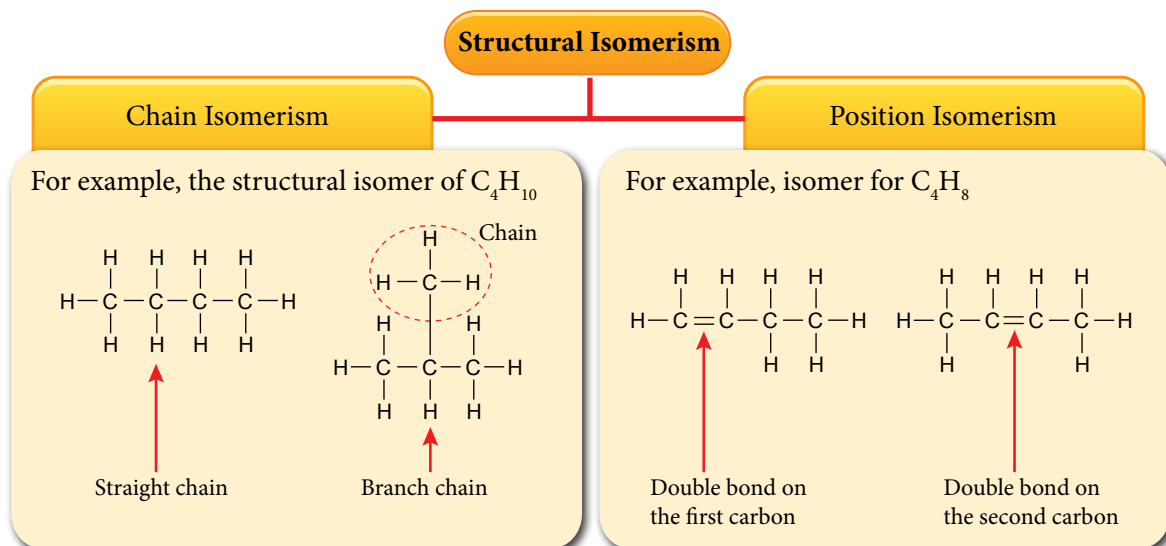

Figure 2.19 Example of structural isomer
- Figure 2.19 shows an example of structural isomerism in butane, C_4H_{10} and butene, C_4H_8 .